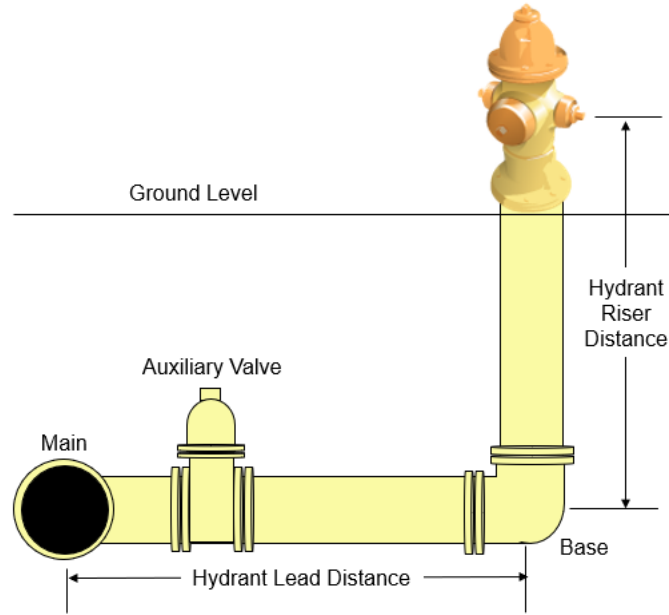

Figure 7. Typical Hydrant Installation
1. Estimate the total length and diameter of the piping (lead line) between the main and the hydrant (**see Figure 7**). Utilize operator's knowledge of system, a system/site map, and design standards as needed.